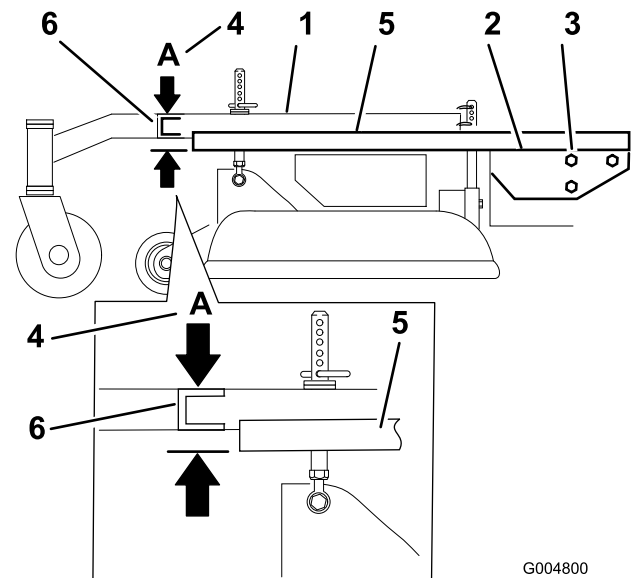

Figure 55
3. Place a long straight edge on top of the engine deck as shown in Figure 55.
4. At the carrier frame cross channel, measure the height at location **A** (Figure 55). This measurement must be 1-5/16 inch (33 mm), plus or minus a 1/4 inch (6 mm).
6. Loosen the carrier frame mounting bolts on both sides of the machine (Figure 55).
7. Align the carrier frame and engine deck to match 1-5/16 inch (33 mm), plus or minus a 1/4 inch (6 mm) at location **A** (Figure 55).